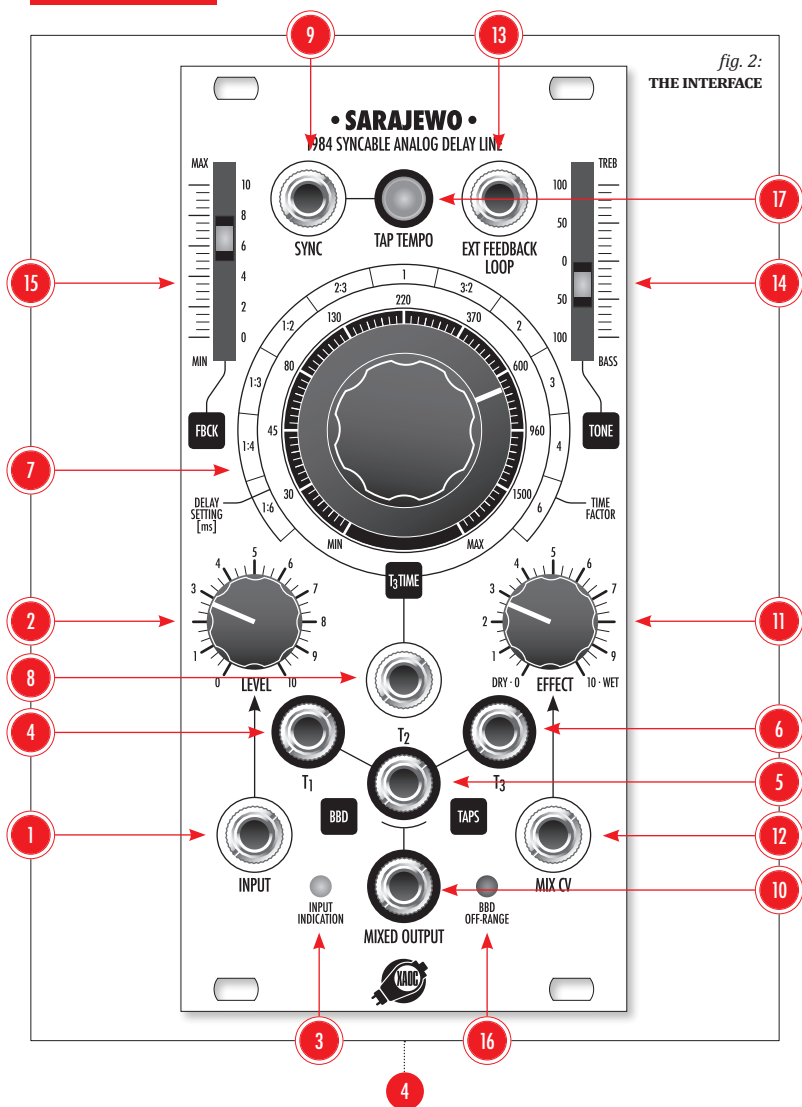

fig. 2:
The front panel of *Sarajewo* is shown in fig. 2. The signal you wish to process should be patched to the **INPUT** jack ①. The **LEVEL** knob ② above controls the amplitude with the **INPUT INDICATION** multicolor LED ③ providing visual feedback. The outputs from individual taps are labeled **T₁**, **T₂**, and **T₃**, respectively: ④, ⑤, ⑥. The central large **T₃ TIME** dial ⑦ allows for precise setting of the overall delay time of the three stages, from about 20ms to over 1.5s. The delay time can be modulated